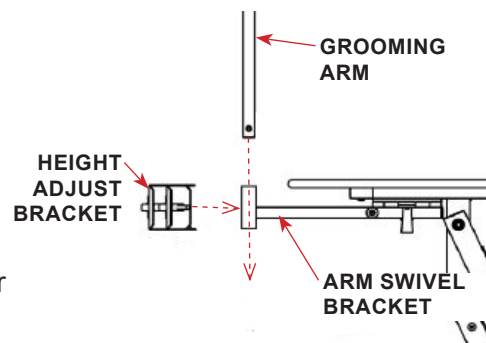

FIGURE 2.4 - Height Adjust Bracket
STEP 1: Slide the height bracket over the end of the arm swivel bracket if it is not already installed. Loosen the height adjustment bracket knob. See FIGURE 2.4